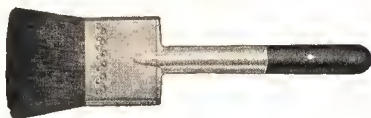

FIG. 24
**Flowing Brush, Figure 24:** A fitch flowing brush made of black Chinese bristle and skunk hair, commonly